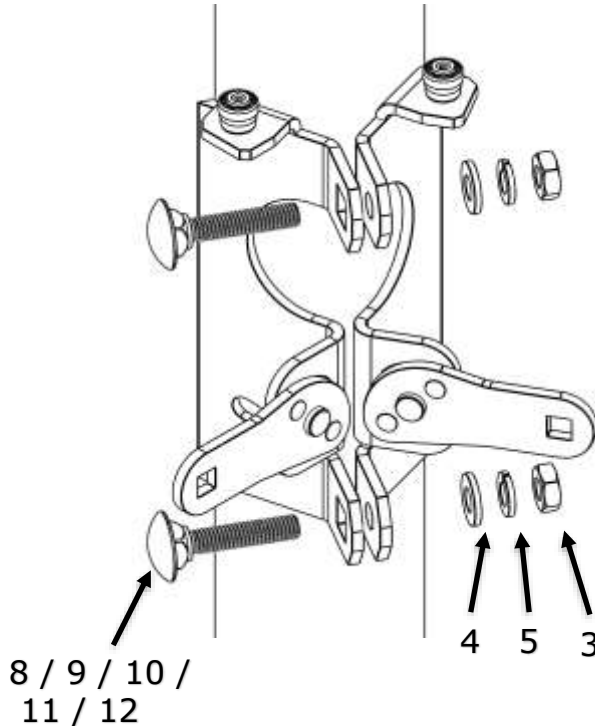
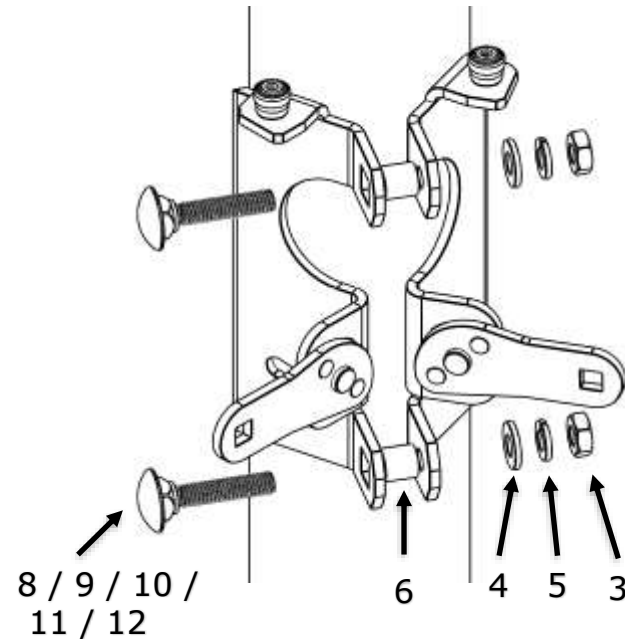

Figure 6: Attach top brackets to pole – 3.5" diameter shown as example
Figure 7: Attach top brackets to pole – 4" diameter shown as example
NOTE: These item numbers refer to Figures 6, 7, 11, 12, and 15.
NOTE: These item numbers refer to Figures 6, 7, 11, 12, 13, 14, and 15.
2. Install three top brackets around pole with selected hardware as shown in *Figure 6* (example 3.5" pole diameter) and *Figure 7* (example 4" pole diameter).